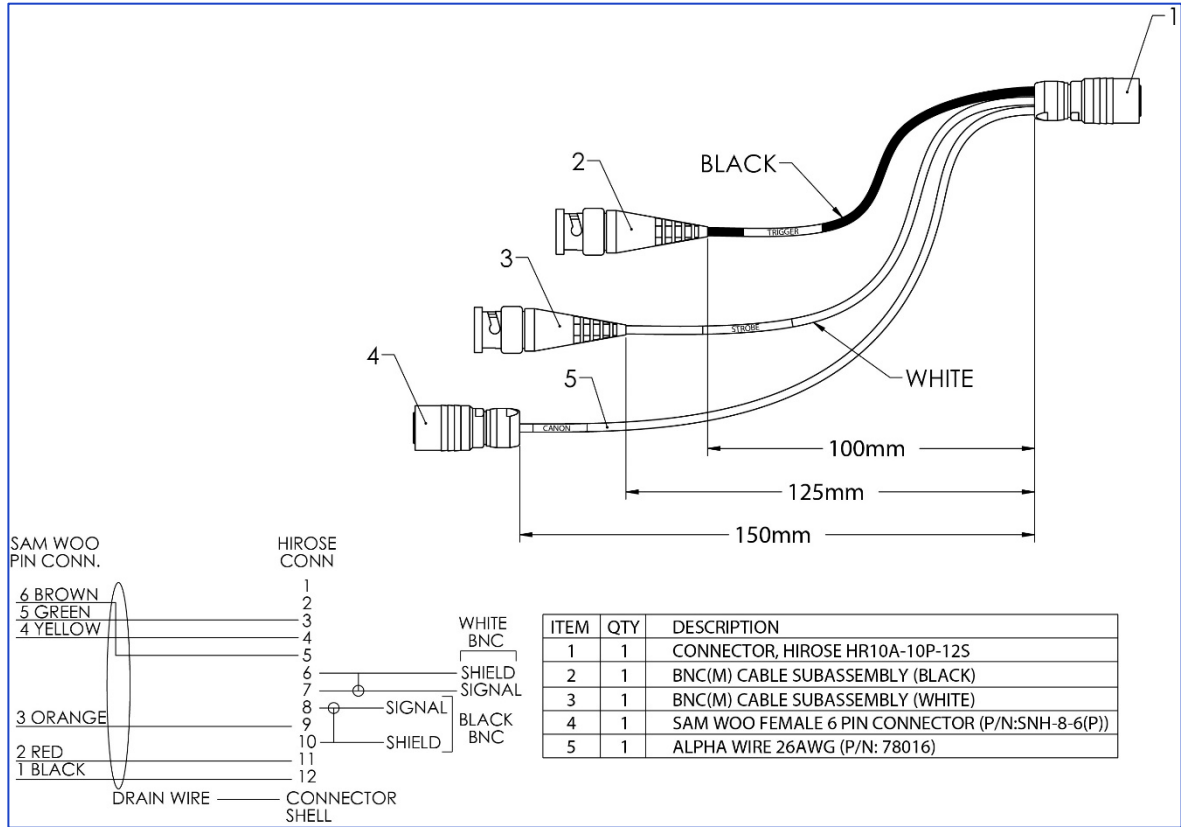

Figure 3: CBL-IO12-0002 cable (ordered separately)
If using Canon EOS active lens control with the camera, use CBL-IO12-0002 cable to connect lens to the camera. The CBL-IO12-0002 cable is sold separately and used for transmitting power, lens control, trigger input, and strobe output signals. It terminates in a female HIROSE plug #HR10A-10P-12S(73) on one end and on a female Sam Woo and two BNC connectors on opposing end (see Figure 3).